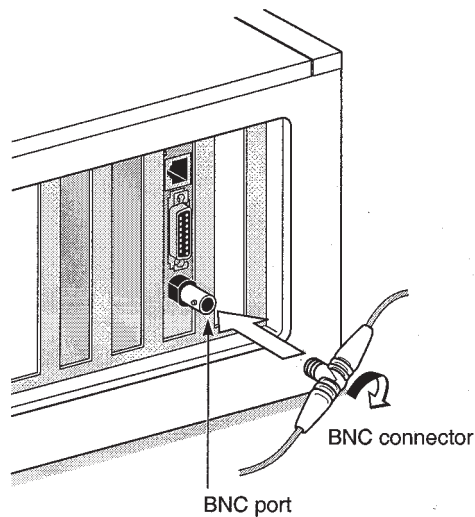

Figure 1-4 Connecting to the BNC Port on the 3C900B-COMBO NIC
- 1 **Connect the BNC connector on the thin Ethernet coaxial cable to the BNC port on the NIC. See Figure 1-4.**